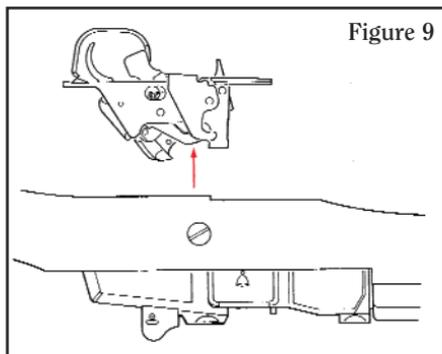

Figure 9
4. Remove trigger housing assembly by carefully pulling it upward (see Fig. 9). Be careful not to damage stock when removing or replacing the trigger housing assembly.